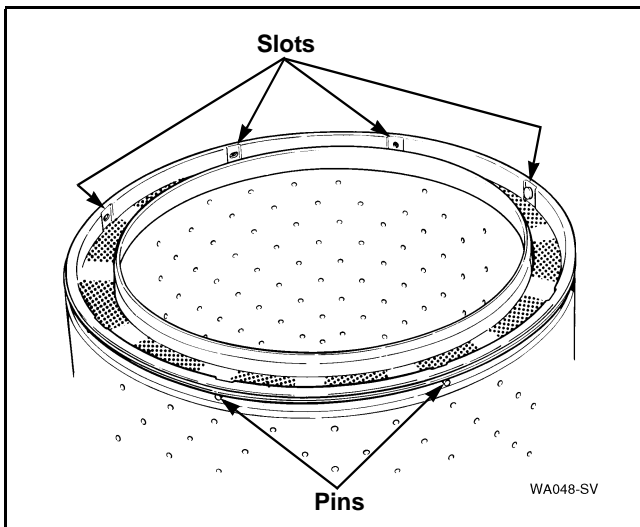

Figure 33
- a. Place a small screwdriver in behind the slots provided in the lint filter. Refer to *Figure 33*.
- b. Carefully pry the pins of the lint filter out of the holes in the washtub. Refer to *Figure 33*.